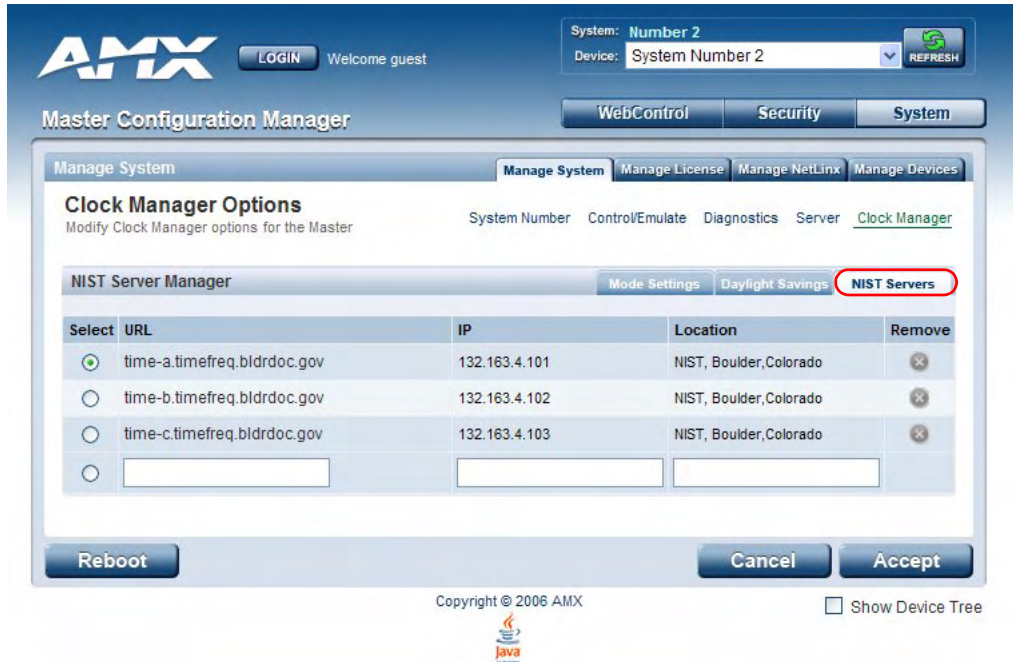

FIG. 42 Clock Manager Options - NIST Servers tab
- In the *NIST Servers* tab (FIG. 42), use the radio buttons to select one of the NIST Servers in the list.